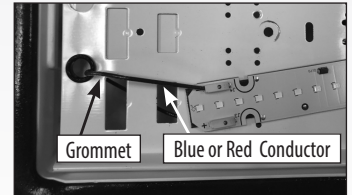

Figure 2: Feeding the Red and Blue conductors through the grommets.
- The Installer can position the two LED Strips onto the top side of the gear tray ensuring the LED Strips do not interfere with other components on the gear tray. Included in the Magnetic Multi-Purpose LED Retrofit Kit are two (2) grommets. If your gear tray does not have an existing 1/2" hole, use a 1/2" drill bit and drill a hole into the gear tray to accommodate the grommet.
- Affix the grommets to each end of the gear tray to prevent damage or abrasion to the Red and Blue Conductors. When the two LED Strips are located where you want them, feed the Red Conductor through the grommet on one end of the gear tray and feed the Blue Conductor through the grommet on the opposite end of the gear tray. See Figure 2.